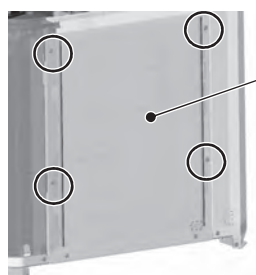

Figure 1
- (1) Remove the front heat exchanger. Refer to 8-12-11 Maintenance Procedures for the Heat Exchanger <Type A> or 8-12-11 Maintenance Procedures for the Heat Exchanger <Type A1> for details.
- (2) Remove the top, front, and right compressor covers. Refer to 8-12-6 Compressor Replacement Procedure <Type A> or 8-12-7 Compressor Replacement Procedure <Type A1> for details.
- (3) Remove the duct from the control box. Refer to the control box replacement procedure for details.
- (4) Remove the right and inside (right) compressor panels by unscrewing the four screws. (Applicable only to the S-module. See Figures 1 and 2.)